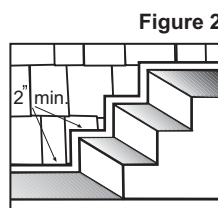

Figure 2
- Maintain a minimum 2" clearance between James Hardie products and roofs, decks, paths, steps and driveways (fig. 2 & 3).